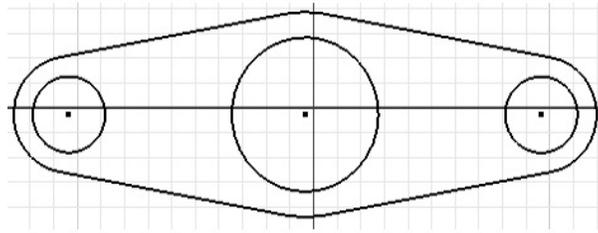

Figure 4-92 Sketch after creating the outer loop and the three circles
8. Next, draw three circles concentric to the three trimmed arcs. Add the **Equal** constraint between the left and right circles. The sketch after drawing the circles and applying the **Equal** constraint to them should look similar to the one shown in Figure 4-92.